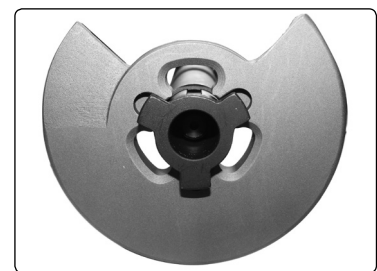

Fig.3
- 4.5. Insert the main body of the spring compressor into the inside of the spring from below with the hexagonal drive nut facing downwards. Guide compressor through the lower jaw and up into the upper jaw, when the compressor has passed through the upper jaw turn the body through approx 50° so it locates in the locking grooves on the jaw FIG.3.